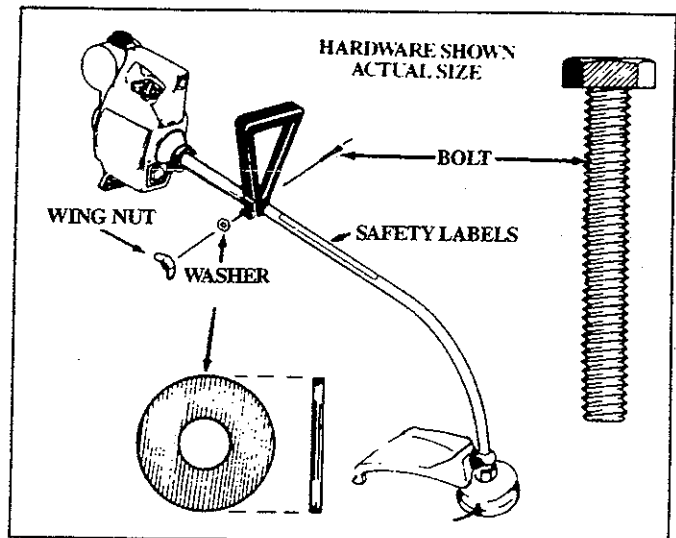

Figure 5
4. ASSIST HANDLE – Figure 5
- Hold the Assist Handle and with the hollow side facing the Engine so it is aligned between the Engine and the Safety Label on the Drive Shaft Housing. Figure 5.
- Firmly push the Assist Handle over the Drive Shaft Housing. Figure 5.
- Install the Washer and Wing Nut. Figure 5.